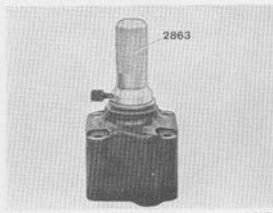

Fig. 6-90. Fitting sealing ring
5. Fit the sealing ring (54) on the fitting tool 2863 with the help of the loose guide. Remove the guide and fit the sealing ring in the valve housing, see Figs. 6-90 and 6-72. The sealing ring should face inwards. Fit the circlip (53).